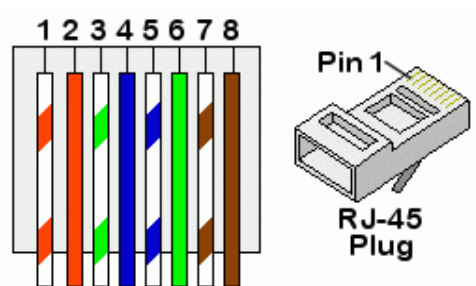

Figure 10 - RJ45 connector pin-out
- 2) Figure 10 the pin-out of the RJ45 connector is shown.